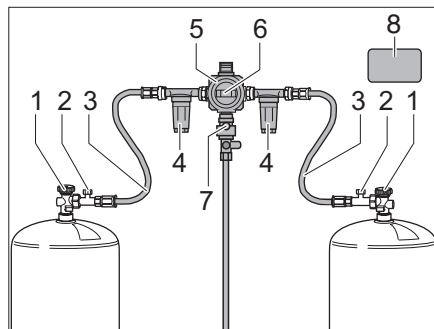
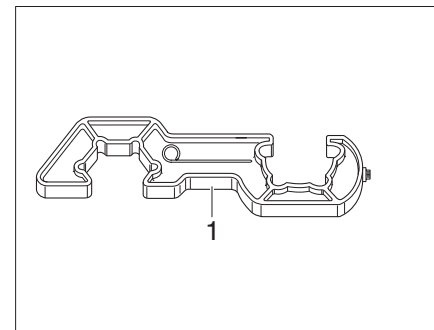

Fig. 79 Caramatic DriveTwo switching facility
Fig. 82 Screw aid
The Caramatic DriveTwo switching facility consists of a switching valve (Fig. 79,5) and the control unit (Fig. 80). The switching valve is mounted between the high-pressure tubes (Fig. 79,3). The rotary knob (Fig. 79,6) on the changeover valve can be used to determine which gas cylinder is used as the operating cylinder and which gas cylinder is used as the reserve cylinder.
The changeover valve (Fig. 79,5) is equipped with the IceEx regulator defrosting system. This prevents damage to the gas system during the winter months.
A gas filter (Fig. 79,4) (optional) can be mounted on each side in front of the changeover valve (Fig. 79,5) to protect the gas system from oil contamination and soiling.
The regulator taps (Fig. 79,1) on the gas bottles must be opened manually.
The release button (Fig. 79,7) of the crash sensor is located under the switching valve.
- Open the regulator taps (Fig. 79,1) on the gas bottles.
- Use the rotary knob (Fig. 79,6) on the switching valve (Fig. 79,5) to select the gas cylinder from which gas is to be taken primarily (operating cylinder).
- Close the regulator taps (Fig. 79,1) on the gas bottles.
- Use the enclosed screwing aid (Fig. 82,1) to screw on and unscrew the high-pressure hoses. It ensures the necessary tightening torque and prevents damage to the screw connection caused by the wrong tool.
- Close the regulator tap (Fig. 79,1) on the empty gas bottle.
- Unscrew the high-pressure hose (Fig. 79,3) from the gas cylinder using the screwing aid (Fig. 82,1).
- Connect the full gas bottle to the high-pressure hose (Fig. 79,3).
- Open the regulator tap (Fig. 79,1) on the gas bottle.
- Set the knob (Fig. 79,6) on the switching valve (Fig. 79,5) with half a turn, so that the newly replaced gas bottle will serve as a reserve bottle.
- Press the button (Fig. 79,2) for the hose break guard at the high-pressure hose to activate it.
- If necessary, press the reset button (Fig. 79,7) on the crash sensor.
- For Caramatic DriveTwo systems, ensure gas is drawn in the direction of travel (see safety sticker (Fig. 79,8) in the gas compartment).
- After changing the gas bottle, press the green button (Fig. 79,2) on the high-pressure hose (Fig. 79,3) firmly.